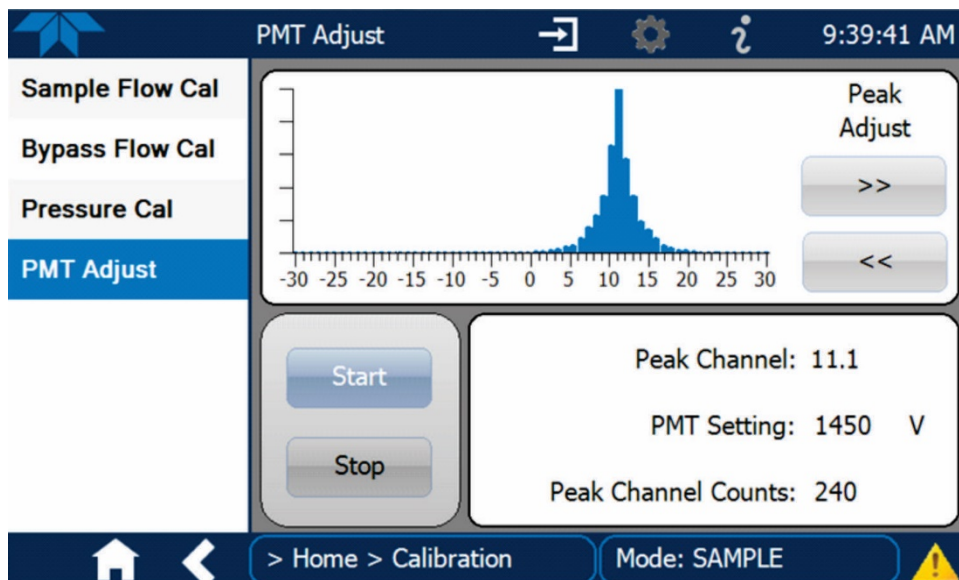

Figure 20. PMT adjust screen
11. If after two tries the Peak Channel reading is not within ± 0.5 of SpanDust™ value stated on bottle, then adjust the PMT Setting by pressing the Peak Adjust left (decrement) or right (increment) buttons to center the Peak voltage (Figure 20). Each press of a button is 1 volt, so press the Peak Adjust button by as many times as the number of volts the reading is off.